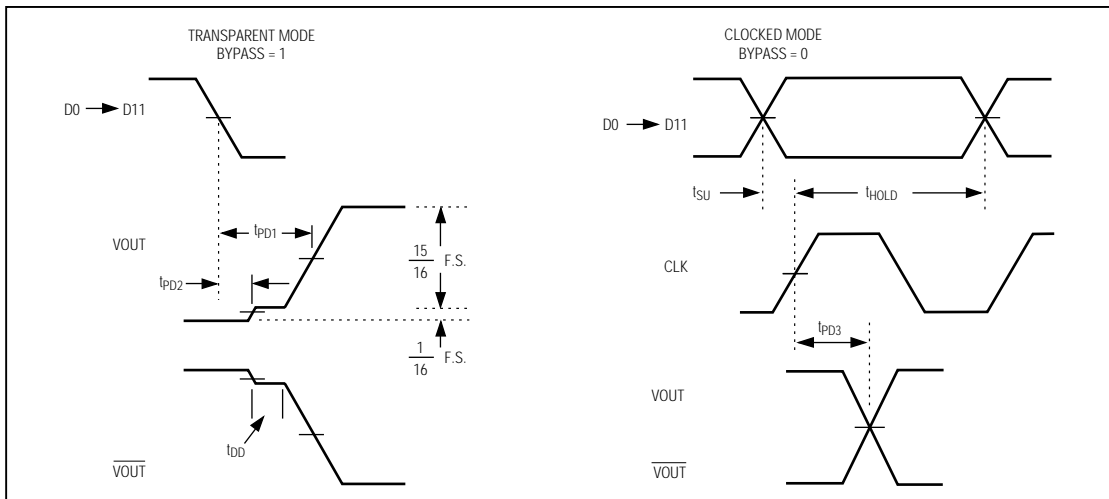

Figure 2. Timing Diagram
**Note 7:** Timing definitions are detailed in Figure 2.
Figure 2's timing diagram illustrates the importance of operating the MAX555 in the clocked mode. In the transparent mode (BYPASS = 1), both the master and slave registers are transparent, and changes in input data rip-